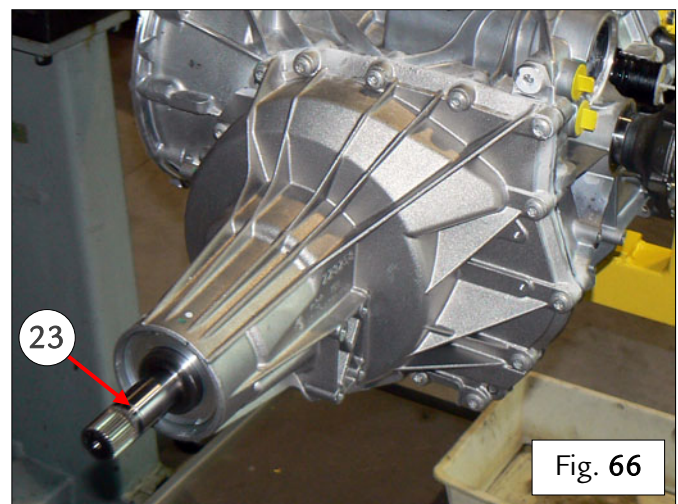

Fig. 66
- Continue to move the differential housing forward slowly, proceeding carefully; a few centimeters before the parts are mated, if necessary, turn the front flange (23) (for **Ferrari California**) or the clutch shaft (for the **458 Italia, 458 Spider, 458 Speciale, 458 SpecialeA, FF and F12berlinetta**) to definitively align the components – Fig. 66.